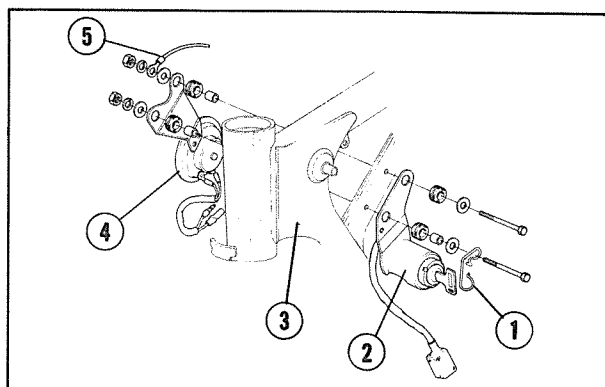

Fig. 4-51
- ① Battery ② Overflow tube
5. Install the main switch and horn as per the instruction given in Fig. 4-51.